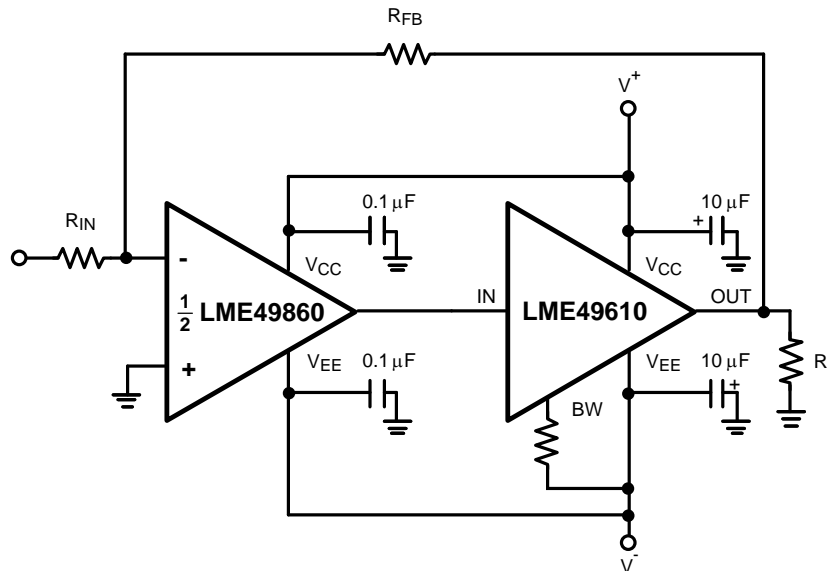

Figure 27. High Performance, High Fidelity LME49610 Audio Buffer Application
- (1) “*Absolute Maximum Ratings*” indicate limits beyond which damage to the device may occur, including inoperability and degradation of device reliability and/or performance. Functional operation of the device and/or non-degradation at the Absolute Maximum Ratings or other conditions beyond those indicated in the *Recommended Operating Conditions* is not implied. The *Recommended Operating Conditions* indicate conditions at which the device is functional and the device should not be operated beyond such conditions. All voltages are measured with respect to the ground pin, unless otherwise specified
- (2) The *Electrical Characteristics* tables list specifications under the listed *Recommended Operating Conditions* except as otherwise modified or specified by the *Electrical Characteristics Conditions* and/or Notes. Typical specifications are estimations only and are not ensured.
- (3) If Military/Aerospace specified devices are required, please contact the Texas Instruments Sales Office/ Distributors for availability and specifications.
- (4) Human body model, applicable std. JESD22-A114C.
- (5) Machine model, applicable std. JESD22-A115-A.
- (6) The maximum power dissipation must be derated at elevated temperatures and is dictated by T_{JMAX} , θ_{JA} , and the ambient temperature, T_A . The maximum allowable power dissipation is $P_{DMAX} = (T_{JMAX} - T_A) / \theta_{JA}$ or the number given in *Absolute Maximum Ratings*, whichever is lower. For the LME49610, typical application shown in Figure 27 with $|V_{EE}| = V_{CC} = 15V$, $R_L = 32\Omega$, the total power dissipation is 1.9W. $\theta_{JA} = 20^\circ\text{C/W}$ for the DDPAK/TO-263 package mounted to 16in^2 (103.2 cm^2) 1oz. copper surface heat sink area.